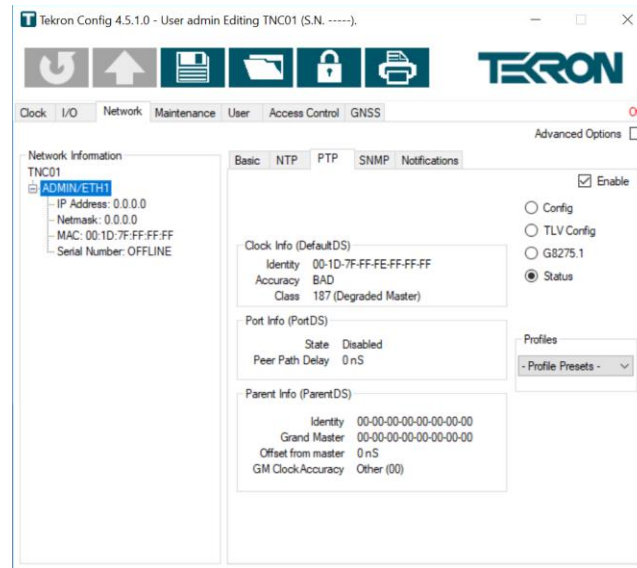

Figure 47 - "Status" information
**“Status” radio button:** This section of Tekron’s Configuration Software is for informational purposes only. Refer to Figure 47. Legacy clocks do not have this feature.